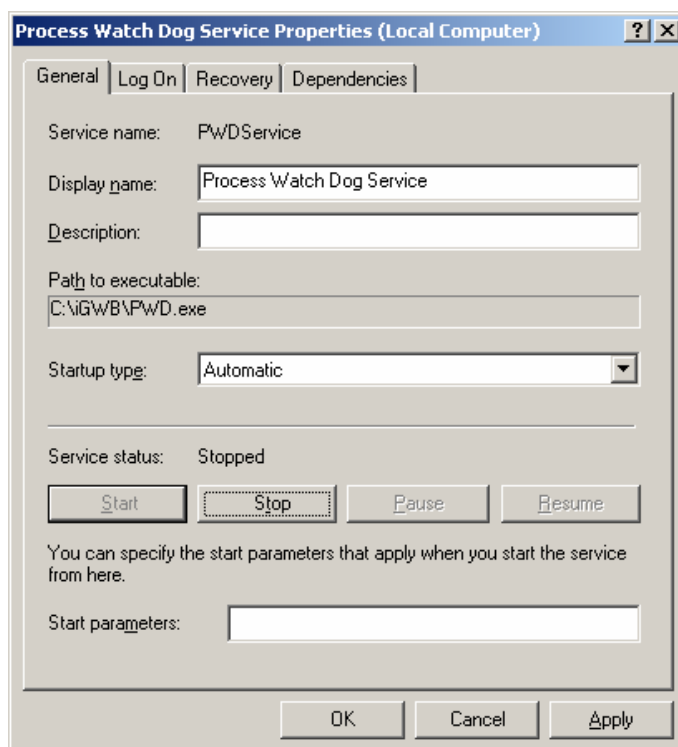

Figure 2-77 [Process Watch Dog Service Properties] dialog box after modification
- 3) Confirm that “Automatic” is set in the [Startup type] box. Click [Start] to start the service. Figure 2-77 shows the properties after the modification. Click <OK> to complete the setting.